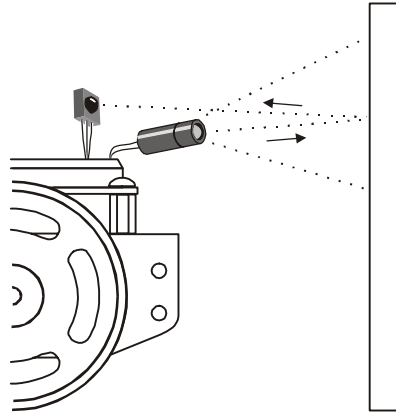

**Figure 7-1**
The infrared object detection system we'll build on the Boe-Bot is like a car's headlights in several respects. When the light from a car's headlights reflects off obstacles, your eyes detect the obstacles and your brain processes them and makes your body guide the car accordingly. The Boe-Bot uses infrared LEDs for headlights as shown in Figure 7-1. They emit infrared, and in some cases, the infrared reflects off objects and bounces back in the direction of the Boe-Bot. The eyes of the Boe-Bot are the infrared detectors. The infrared detectors send signals indicating whether or not they detect infrared reflected off an object. The brain of the Boe-Bot, the BASIC Stamp, makes decisions and operates the servo motors based on this sensor input.
- ✓ Place an object, such as your hand or a sheet of paper, about an inch from the left IR pair, in the manner shown in Figure 7-1 on page 236.
- ✓ If the Debug Terminal displays the expected values for object not detected (1) and object detected (0), move on to the Your Turn section following the example program.